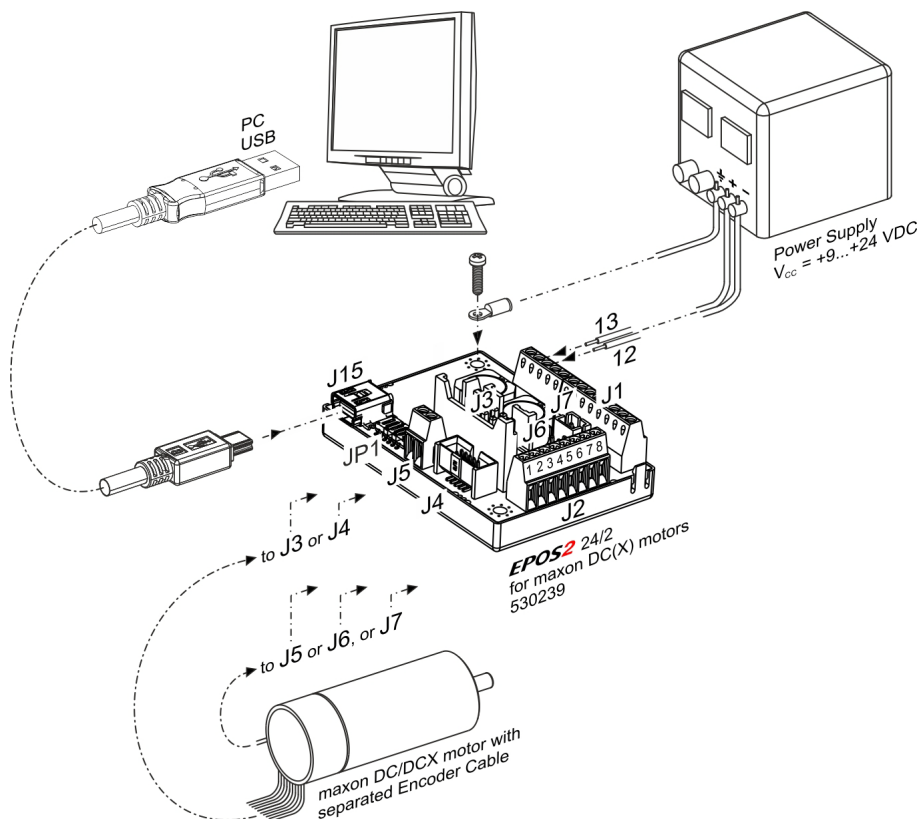

Figure 3-7 Minimum Wiring: maxon DC/DCX motor (separated Encoder Cable)
- 2) Connect maxon cable assemblies (→ Table 3-10 and Figure 3-7).